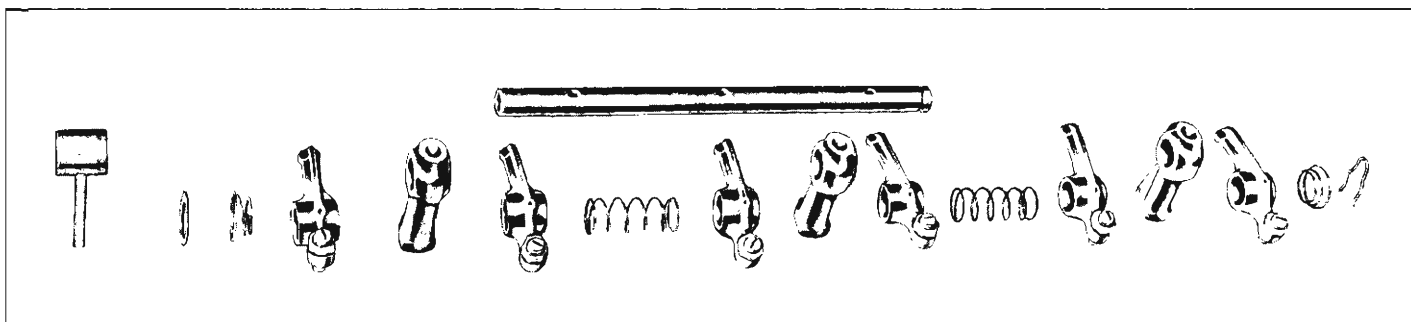
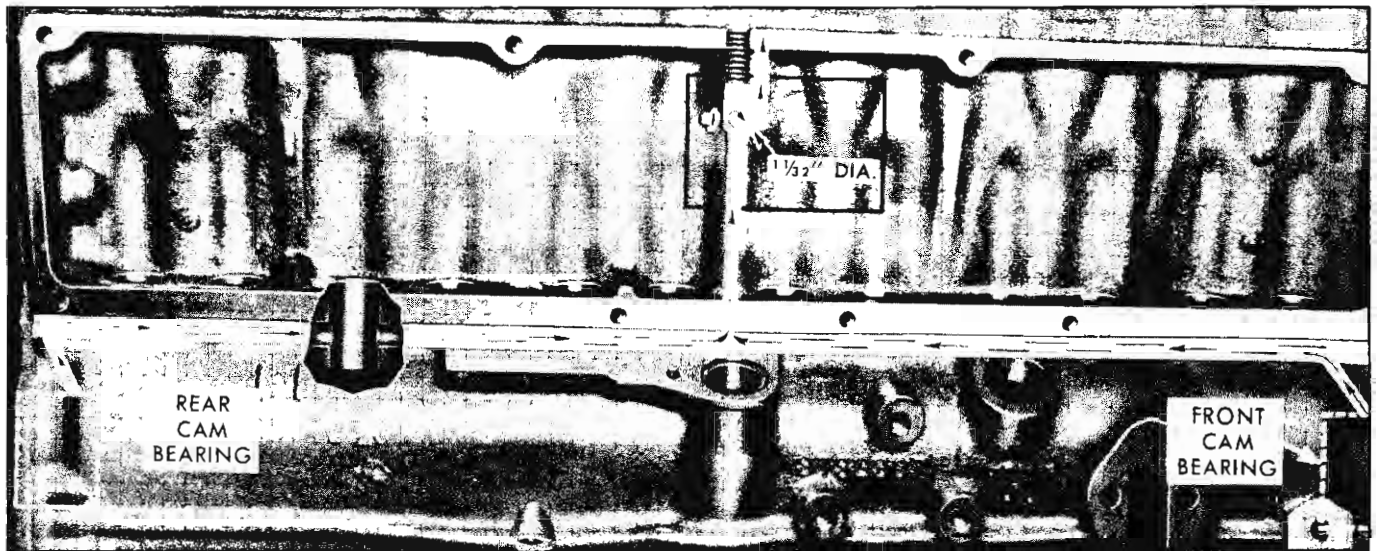
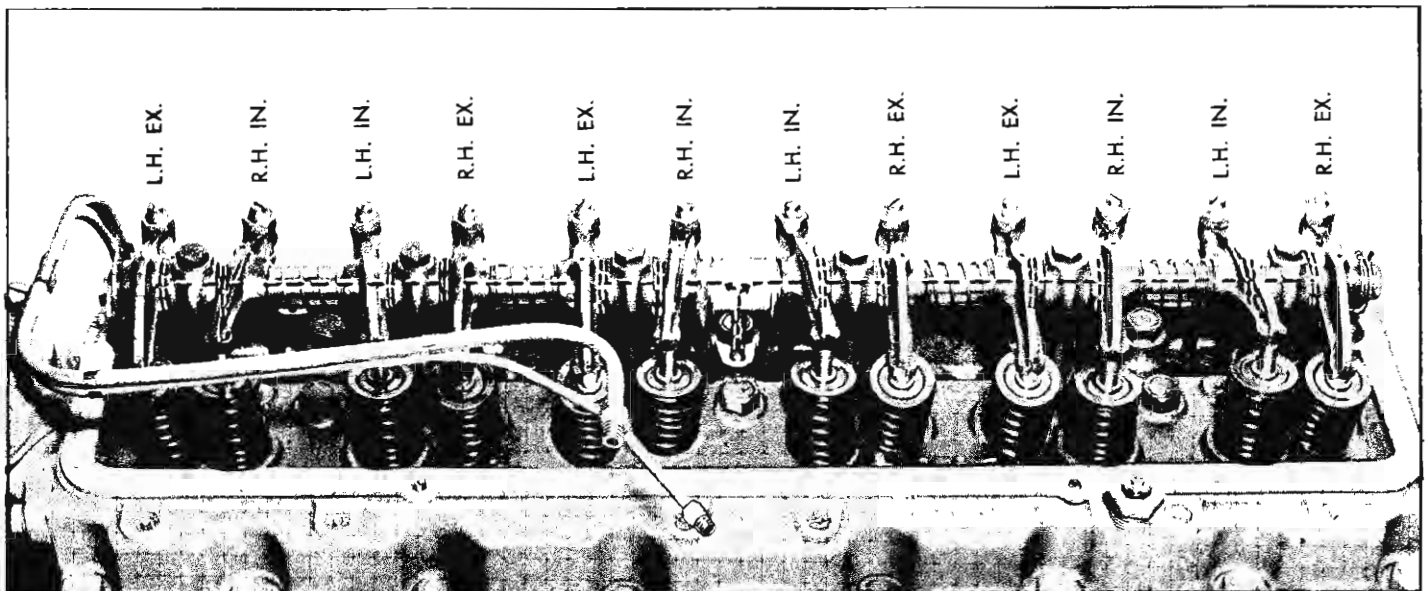

Fig. 14—Layout of Rocker Arm & Shaft Parts
Fig. 17—Oil Passages from Camshaft Bearings to Rocker Arm Assembly
Fig. 18—Oil Passage Through Rocker Arm Assembly
- Install the rocker arms, springs, supports, support bolts and locks in their correct position by referring to the above chart and Figure 14. Figure 18 shows the rocker arm and shaft assemblies correctly installed on the cylinder head.
the rocker shaft assembly as shown in Figure 17. The use of a mechanical tappet without the annulus would block the flow of oil to the rocker arm shaft assembly.
**NOTE:** The orifice located in the cylinder block shown in Figure 17, is a 11/32" diameter hole. The oil connector is incorporated, to sustain oil pressure in the rocker shaft (fig. 18). The oil groove annulus in each rocker arm has been decreased in depth and relocated 1/4" to the side adjacent to each rocker arm shaft support, thus providing full pressure oiling.